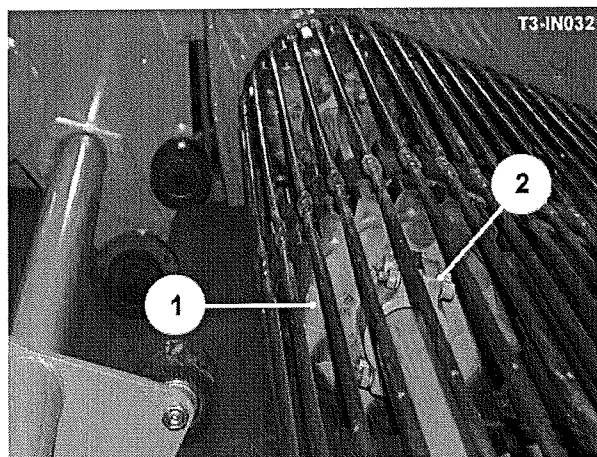

Fig 39
Split web drive sprockets (item 1, fig 39) on some web drive shafts. The sprockets allow for worn sprockets to be replaced or alternative pitch sprockets to be fitted without dismantling the drive shafts. Most drive sprockets will have been split on initial installation, but if not, they should be split with a hammer and sharp chisel. Before splitting a sprocket on or off the machine, remove the fixing bolts. Keep the split halves of the sprockets in the correct pairs to prevent mis-match when fitting.